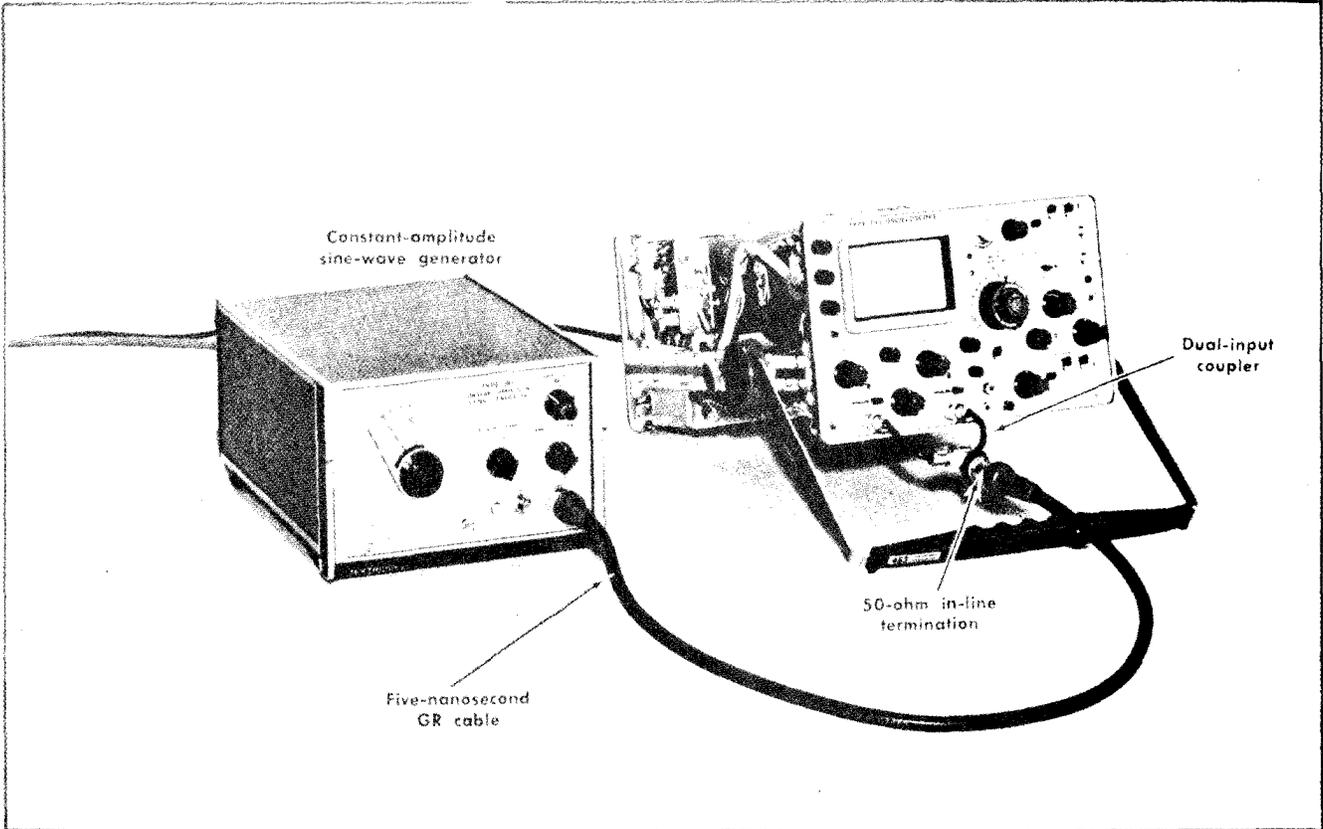

Fig. 6-25. Test equipment setup for steps 28 and 29.
a. Test equipment setup is shown in Fig. 6-25.